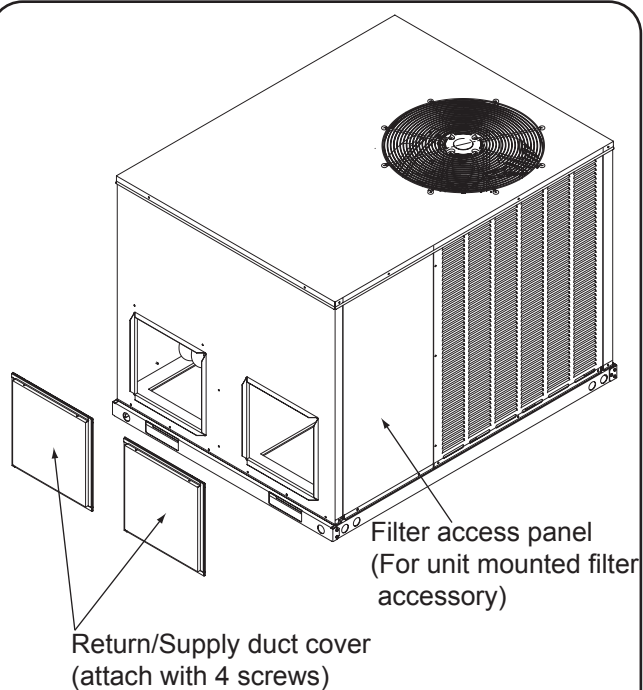

Fig. 3-4 Duct cover installation side mounting
1. Remove 3 screws securing filter access panel and remove filter access panel. For location of access panel, see Fig.3-4.
3. Secure covers to the side of the unit using existing screws and those supplied in the parts bag. See Fig. 3-4.